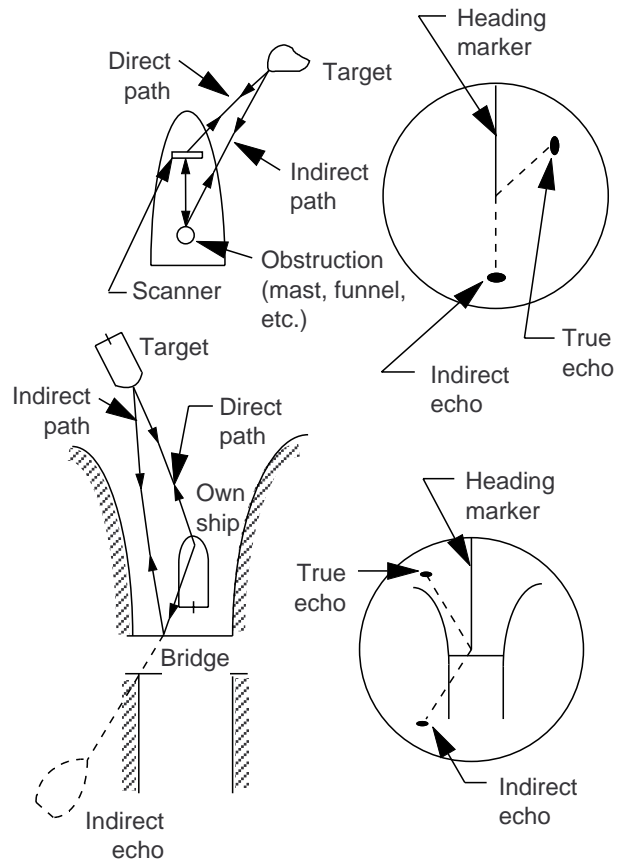

Figure 2-4 Indirect echoes
Indirect echoes may be returned from either a passing ship or returned from a reflecting surface on your own ship, for example, a stack. In both cases, the echo will return from a legitimate contact to the antenna by the same indirect path. The echo will appear on the same bearing of the reflected surface, but at the same range as the direct echo. Figure 2-4 illustrates the effect of an indirect echo. Indirect echoes may be recognized as follows: (1) they usually occur in a shadow sector; (2) they appear on the bearing of the obstruction but at the range of the legitimate contact; (3) when plotted, their movements are usually abnormal, and (4) their shapes may indicate they are not direct echoes.